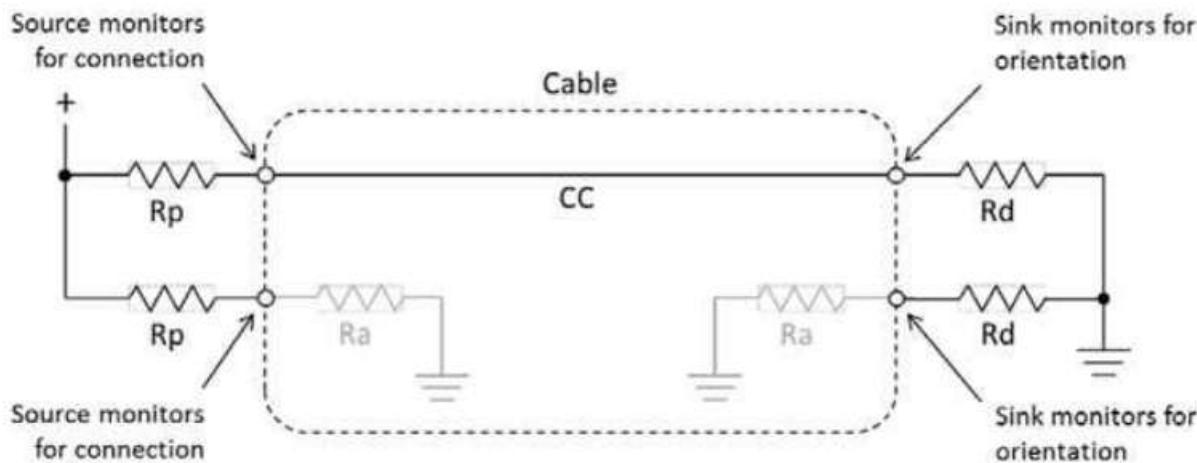

Figure 3. CC logic pullup and pulldown termination. (Source: USB Type-C specification v1.2, Figures 4 and 5 pullup and pulldown CC model)
- **Cable detection** occurs when one of the two CC lines pulls down (see Figure 3). A DFP will have both of its CC pins pull up with resistor Rp, and a UFP will have both of its CC pins pull down with resistor Rd. Once a DFP processor detects that one of its CC lines is pulled down, the DFP will know that a connection has been made.